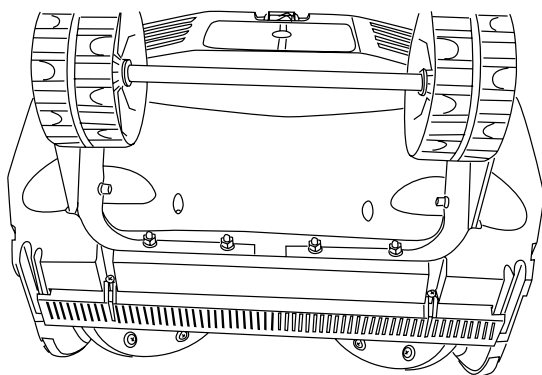

Figure 24
1. The scraper bar is located at the base of the snow thrower beneath the rotor housing (Fig. 24).